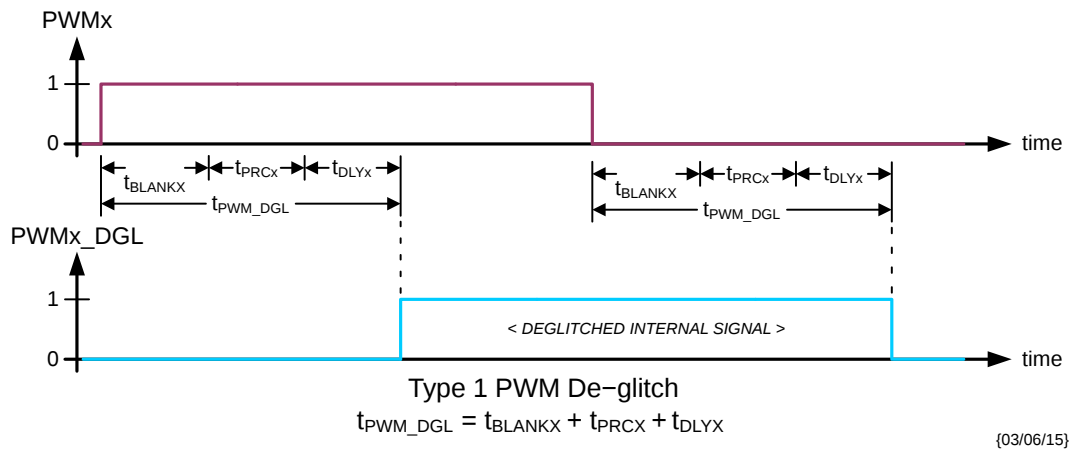
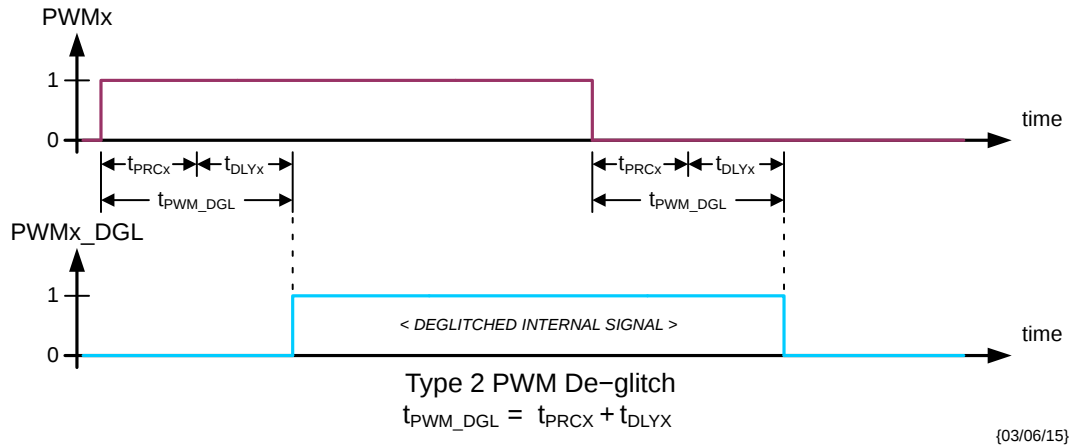

Figure 10. Type 1 PWMx Input De-glitch – CR14.DGLx = 0
Figure 11. Type 2 PWMx Input De-glitch – CR14.DGLx = 1
When multiple PWMx inputs are needed to be active, the scheduled PWM signals should be offset in time to avoid degradation of the VDS overload detection due to crosstalk (see § *Overload Protection*). The minimum offset should be based on the t_{PWM_DGL} times appropriate for the respective channels (see § *Switching Behavior of Half-bridge Drivers*, Figure 10 and Figure 11).
- adaptive PWM input de-glitch construction when in half-bridge configuration is selected by DGLx[6:0] bits (see Figure 10, Figure 11, Table 21 and Table 22).
When operating in PWM mode, type 1 de-glitch is selected when CR14.DGLx = 0 (see Figure 10) and the adapted time is given by:
Type 2 de-glitch is selected when CR14.DGLx = 1 (see Figure 11) and the adapted time is given by:
- the PWMx_DGL resulting from the channel's operating configuration (see § *Switching Behavior of Half-bridge Drivers*, Figure 10 and Figure 11);
The appropriate latch is set (after the adapted t_{PWM_DGL} – see Figure 10 and Figure 11) at the start of the switch activation (see V(HBx) in Figure 12). In the case of the high-side MOS, the delay time t_{DLYX} is started at the end of the pre-charge time (t_{PRCX}). In the case of the low-side MOS, the delay time t_{DLYX} is started concurrent with the GLx turn-on current (see I(GLx) in Figure 11). At the end of time t_{DLYX} the switching node voltage is compared with the appropriate VDS_{THR_R} or VDS_{THR_F} overload detection threshold (see § *Electrical Characteristics: Half-Bridge Diagnostics*).